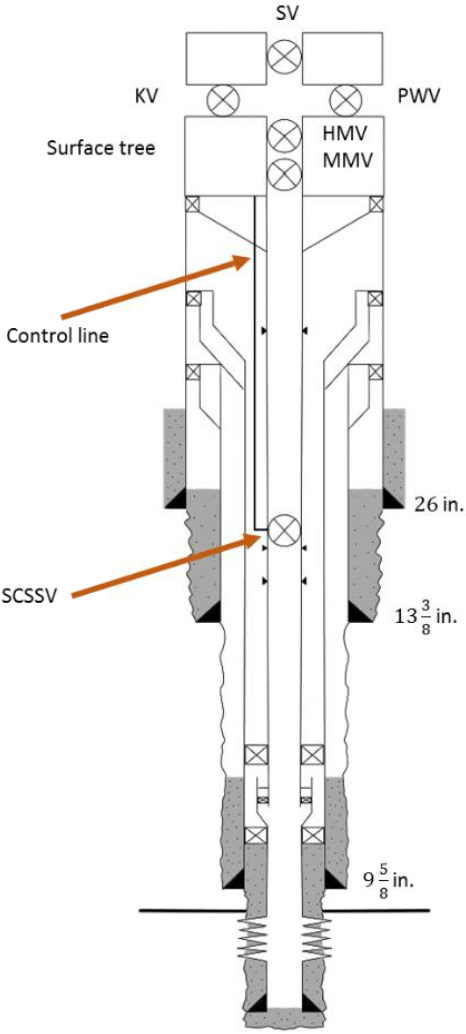

Figure 2 – A platform well completed with the vertical tree.
9. A platform well (see Figure 2) has been drilled and completed with the vertical tree in 1985. Apparently, the Top of Cement (TOC) in the B-annulus is below the permanent packer. The well suffers from sustained casing pressure in the A- and B-annulus and caliper log shows big holes along the production tubing (shown with triangle on the well schematic). Operator decided to permanently plug and abandon the well. Through the operation, BOP has been necessitated to control the well pressure.